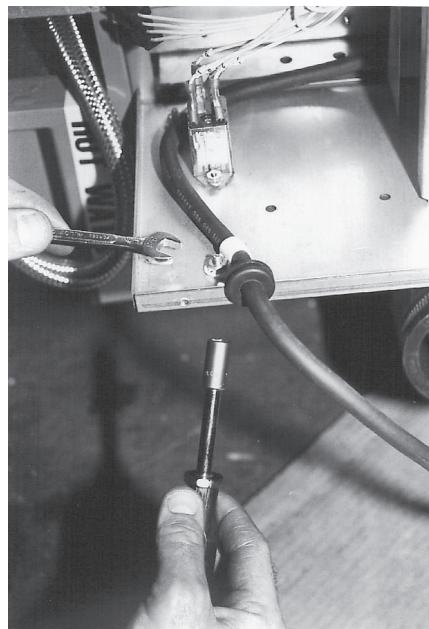

Fig. 74
6. With a  $\frac{7}{16}$ " socket, and/or open end wrench remove (2) bolts and hardware securing the power supply box to cooker. (Fig. 74)